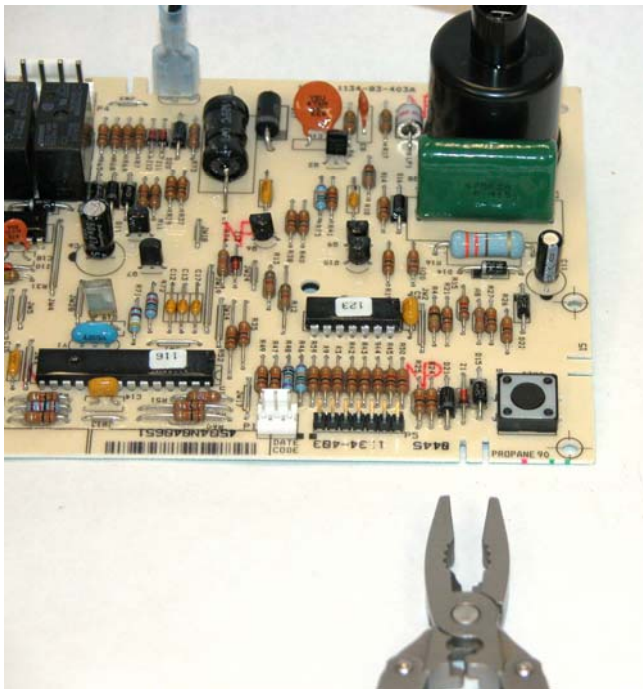

Fig. 12
1. Locate the propane tab on the board as shown in **Fig. 12**.